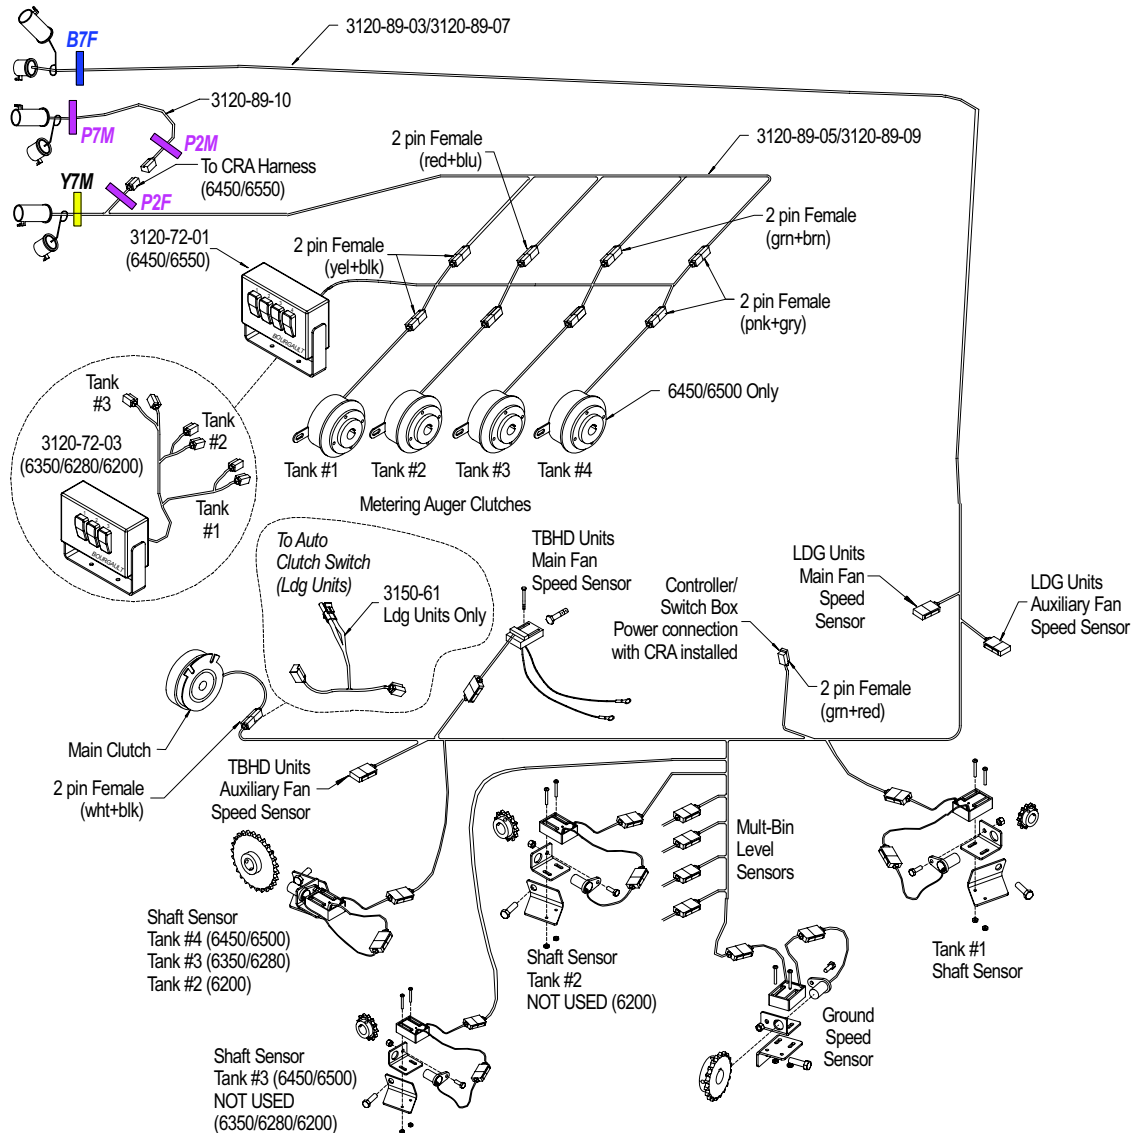

Figure 11.24 - 591 Monitor Wiring Schematic with **Manual Rate Control**
Use the following LEGEND with *Figures 11.24 to 11.29*, where part numbers are given for labelling the cables/control boxes.
Ensure that all connections between the different harness are made at the tractor/tillage unit hitch and at the tillage unit/air seeder hitches. Refer to *Figures 11.24 to 11.29* for all connection locations.
- a. Secure the CRA harness to the Air Seeder chassis (refer to *Figures 11.24 to 11.29*).
- i. For the 3 switch CRA remote switch box (3130-11), connect the 2-pin line to the **Auxiliary Clutch** location on the air seeder extension harness (3120-89-03/3120-89-07). Refer to *Figures 11.24 to 11.29*.
- ii. For the 4 switch CRA remote switch box (3130-28), connect the 2-pin line to the 2-pin connector next to the 6-pin connector, on the CRA harness (3120-89-04). Refer to *Figures 11.24 to 11.29*.
- a. Route two of the clutch switch box/CRA - cultivator extension cables (3120-95-06) across the tillage unit, from the tillage unit hitch to the rear tow hitch. Refer to *Figures 11.24 to 11.29*.
- b. For the 4-switch box (3130-27) connect the 2 pin line to the 4th actuator/clutch switch box extension cable (3120-89-06). Refer to *Figures 11.24 to 11.29*.
- d. Four units with multi-clutches installed, there is a 2-pin connector on the CRA harness that must be connected to the auxiliary clutch harness (3120-89-05/3120-89-09). Refer to *Figures 11.24 to 11.29*.